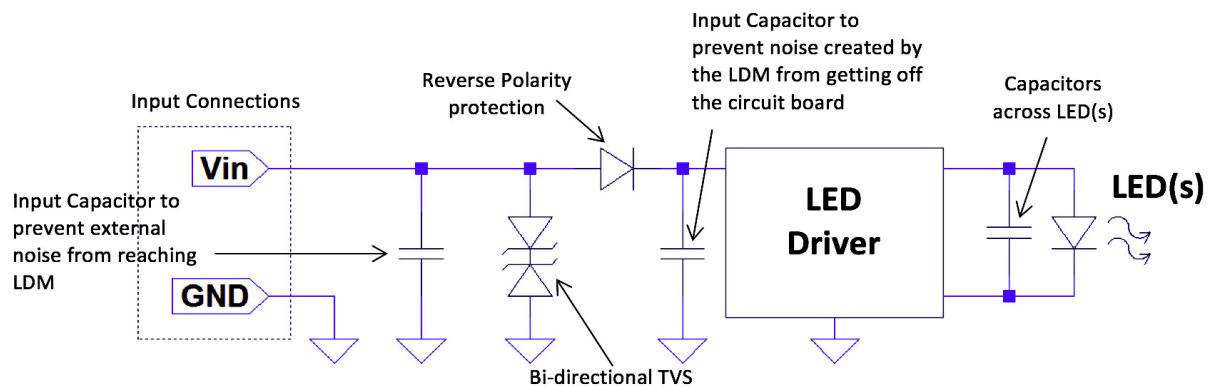

Figure 5. Typical input circuit.
- Use of Rectifier (Blocking) Diode (see Figure 5) or Blocking FET, in the input circuitry, prevents negative potential from being applied to, and potentially damaging, the LEDs
To limit the effects of transients, a bi-directional Transient Voltage Suppressor (TVS) (see Figure 5) can be placed as part of the circuitry input of the LED driver between the input connection and the reverse bias protection. The TVS value should be chosen such that it is high enough that it does not conduct during normal operation (including overvoltage and jump start requirements), yet low enough that it will protect the circuitry against overvoltage transients.